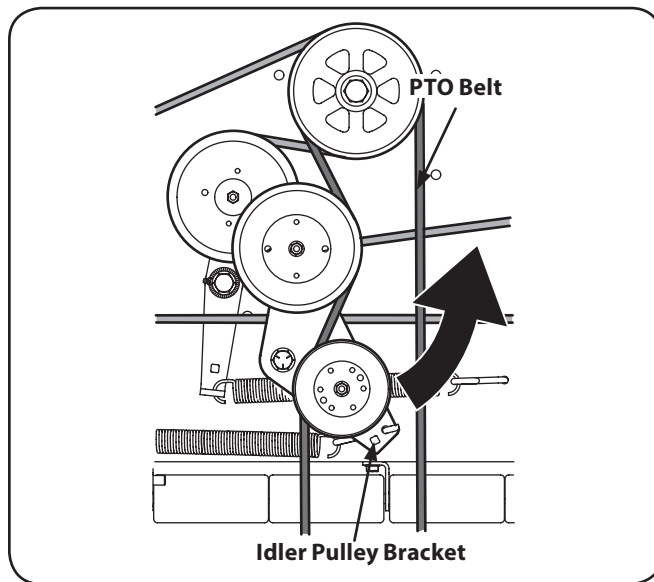

Figure 7-2
4. Using a ½" drive in the idler pulley bracket, turn the wrench towards the right of the tractor and slide the belt off the PTO pulley. See Figure 7-2.